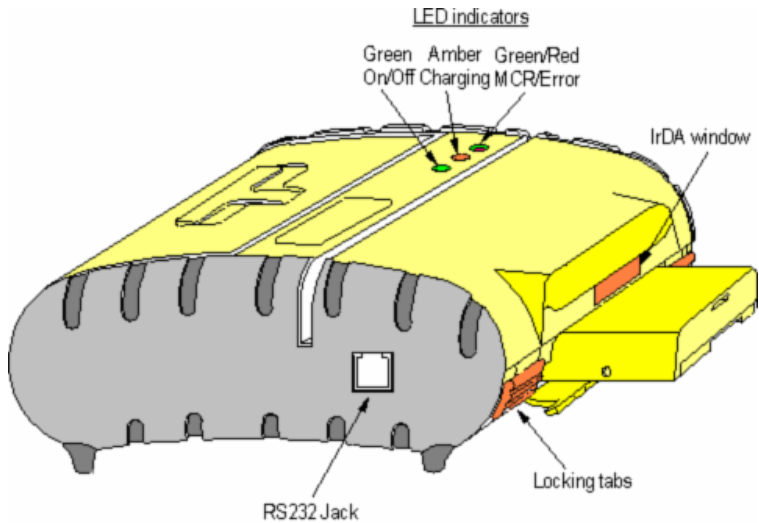

Figure 1:
*Note: Refer to Figure 1 below to install the battery pack in the printer.*
This table explains the LED indicator status. Refer to Figure 1 for the locations described for ON/OFF and FEED pushbutton switches and AC adaptor socket.